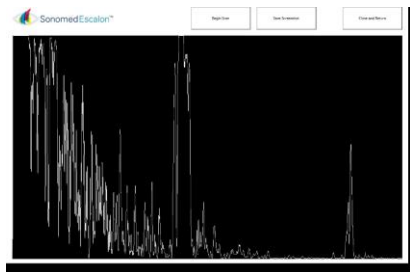

Fig. 9 - Diagnostic-A Utility Screen
⑤ **Application Window:** Upon selecting the 'Diagnostic-A Utility' button the VuMAX HD patient database will momentarily close and the Diagnostic A-Scan Utility screen will open (Fig. 9).